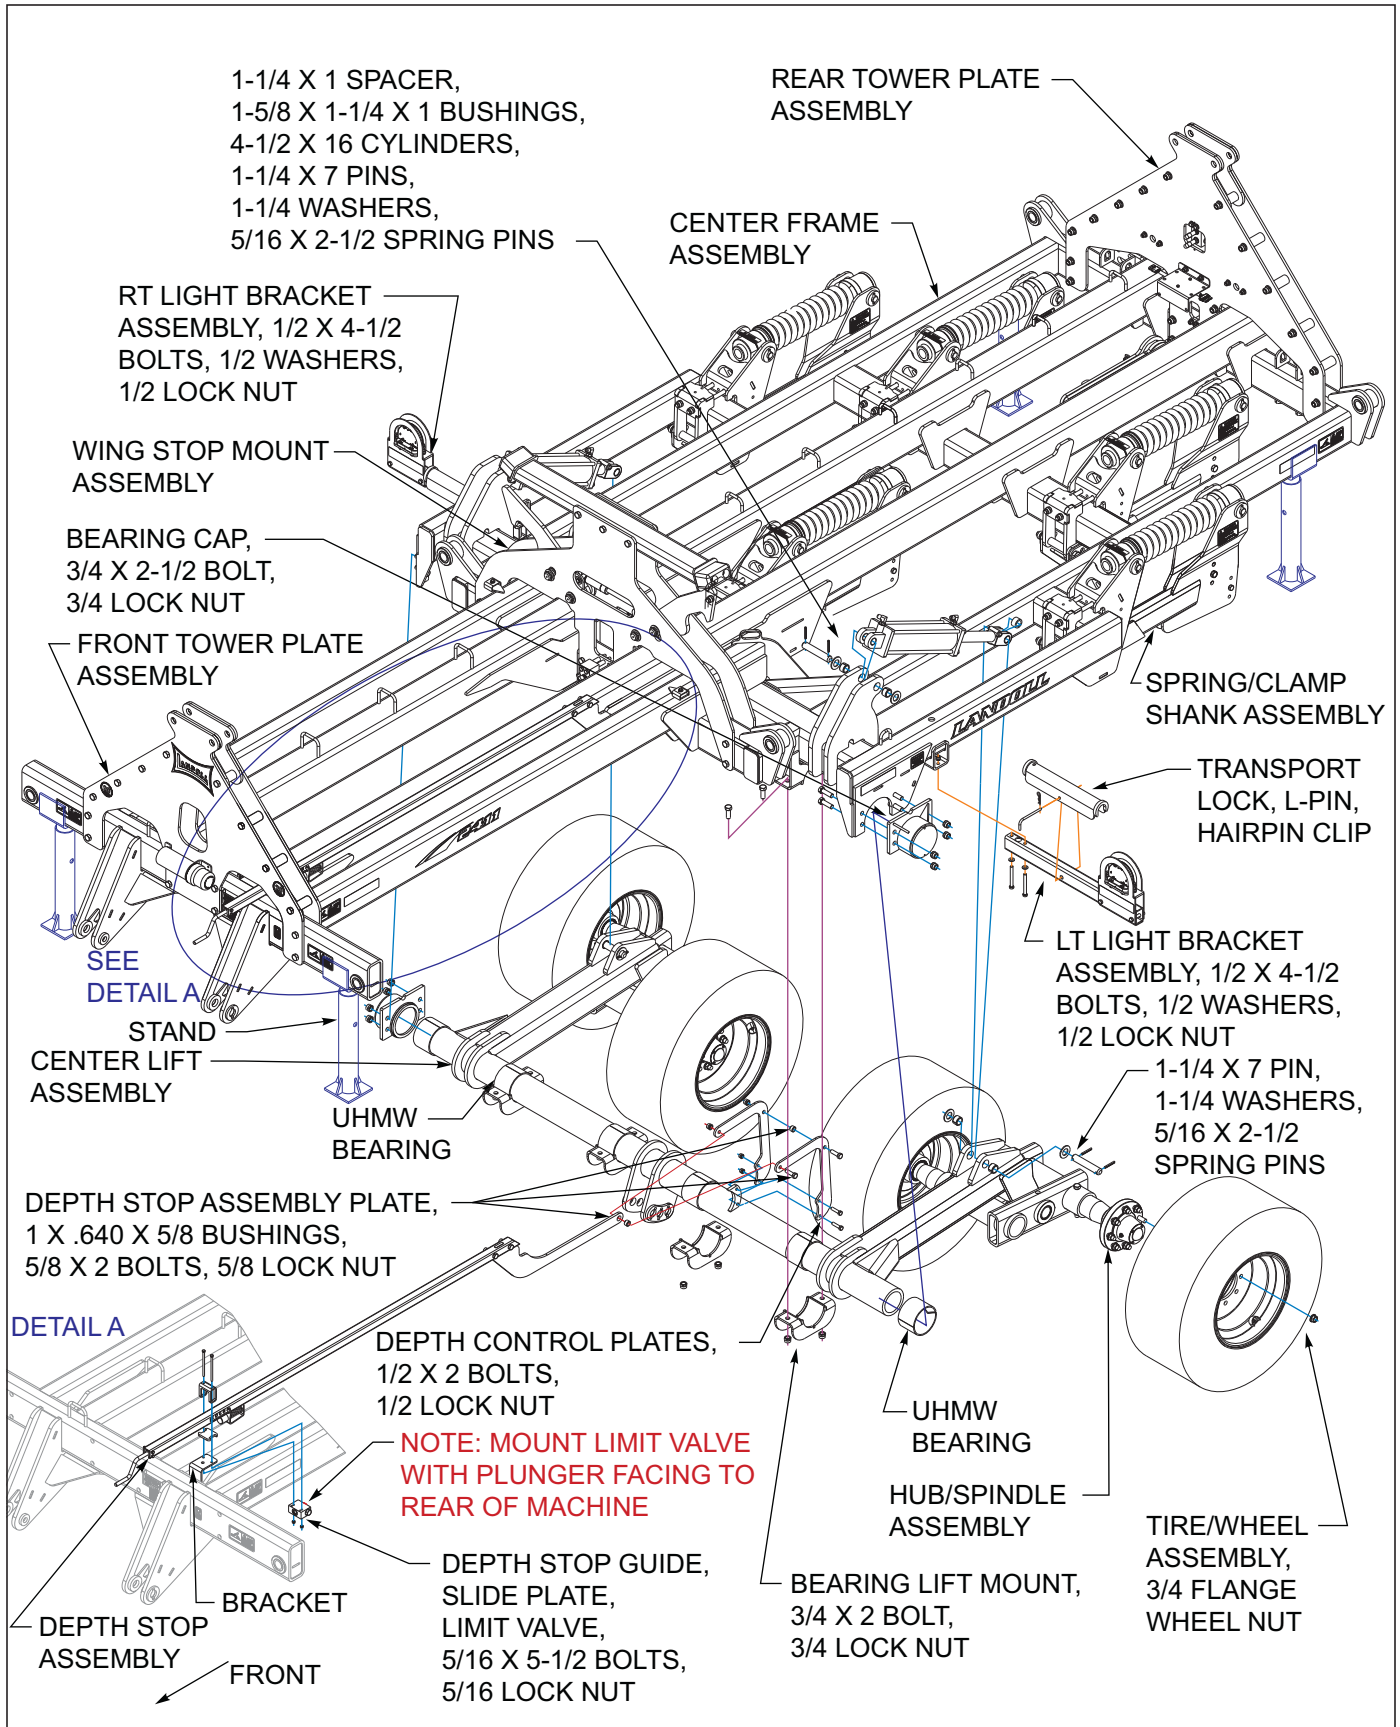

Figure 3-3: Center Frame and Lift Assembly 2411AFG-07-09
1. Place frame assembly on stands approximately 36" high. The assembly area should be a large level area of sufficient size to accommodate the Weatherproofer when fully assembled *See Figure 3-3*. RT and LT is determined from standing at the back looking forward.
Be sure the 4, 1-5/8 x 1-1/4 x 1 bushings are installed in the lift plate mounts and center lift assembly mount plates *See Figures 3-3*.
7. Install a 1-1/4 x 1 spacer in rod and base end cylinder clevis. Attach both ends of the cylinder with 1-1/4 x 7 pins, 1-1/4 washers and 5/16 x 2-1/2 spring pins as shown *See Figures 3-3*.